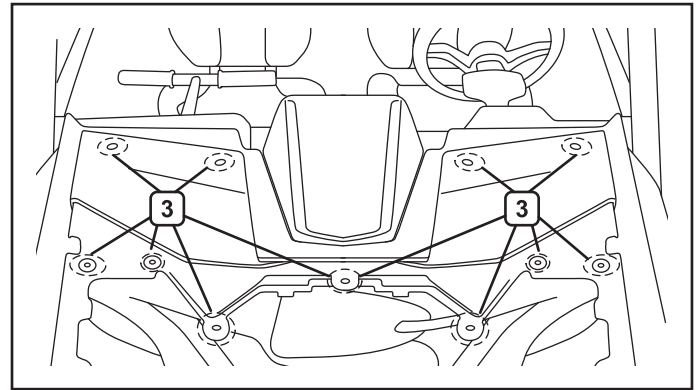

Figure 6. Hood and top plastic cover removal
Suggested Contactor Location: Remove the hood and the top plastic cover from your machine by removing the bolts and plastic push rivets (3) as shown in figure 6.